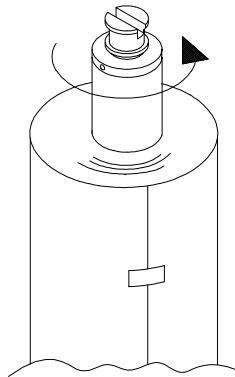

Figure 26. *Manually freeing the take-up shaft.*
3. Stand the roll on end with the flanged coupling pointing up. Rotate the take-up shaft counter clockwise (opposite to the direction that the paper was rolled on the machine). See *Figure 26*.